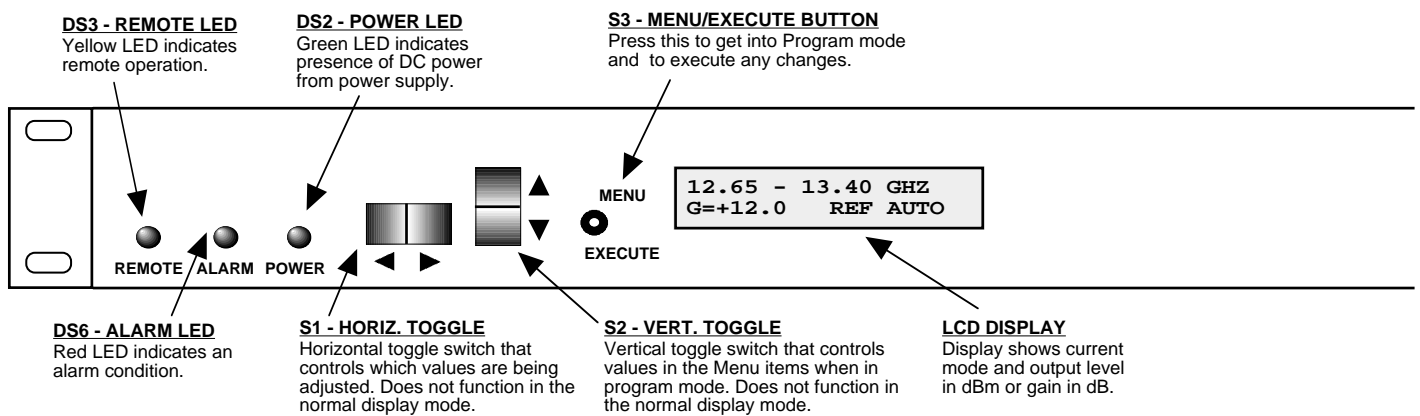

FIGURE 2.2 3115-126 Front Panel Controls and Indicators
Figure 2.2 shows the front panel controls and indicators.
5. Be sure DS2 (green, DC Power) is on and DS6 (red, Alarm) is off (Figure 2.2).
Alarm indications appear on the LEDs (see Figure 2.2).